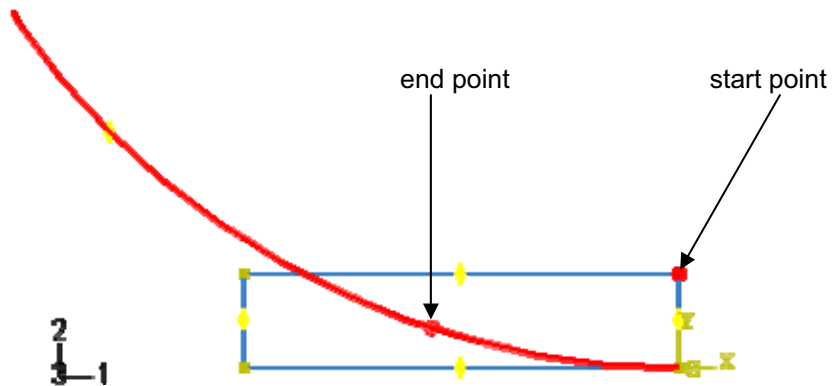

Figure W15–3 Part positioning.
4. From the main menu bar, select **Instance→Translate** to modify the position of the plate. Define the translation vector using the start and end points shown in Figure W15–3.
1. In the Model Tree, double-click the **Sets** item underneath the **Assembly** container. Create the following sets corresponding to the regions shown in Figure W15–4: